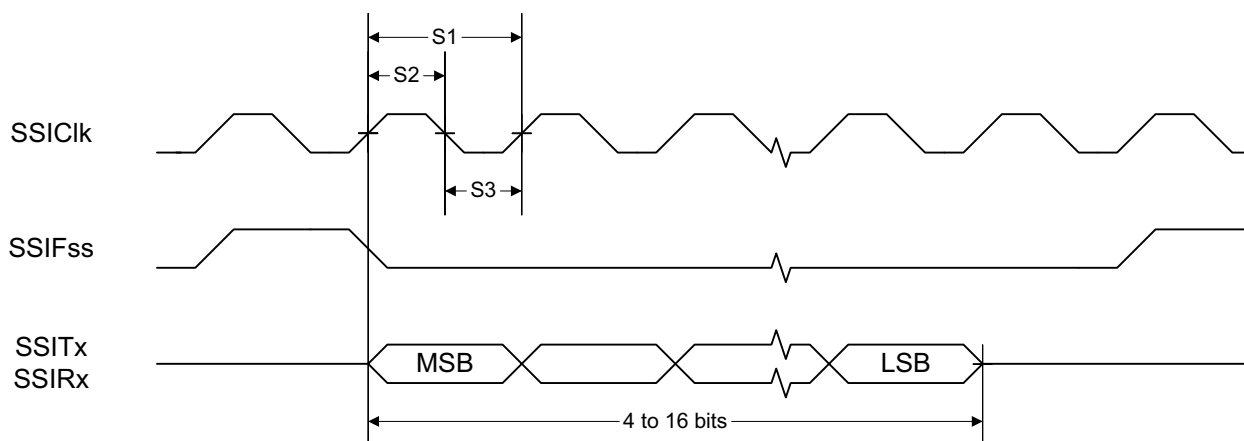
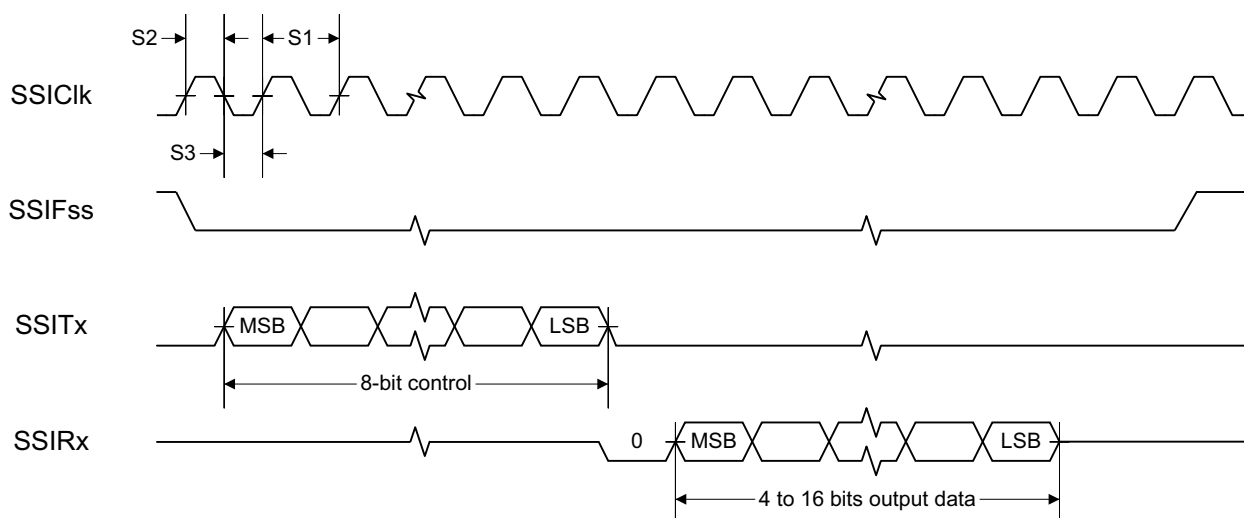
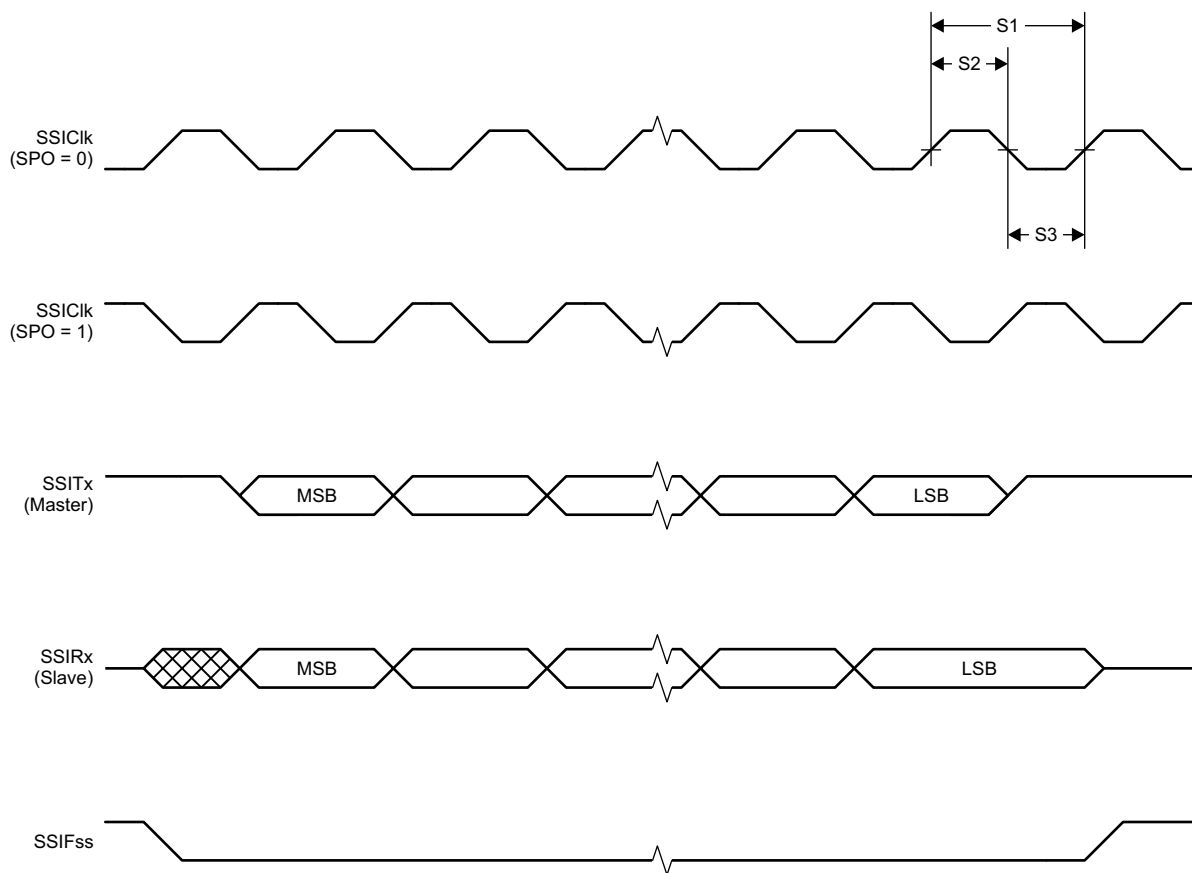

Figure 8-1. SSI Timing for TI Frame Format (FRF = 01), Single Transfer Timing Measurement
Figure 8-2. SSI Timing for MICROWIRE Frame Format (FRF = 10), Single Transfer
Figure 8-3. SSI Timing for SPI Frame Format (FRF = 00), With SPH = 1
- (1) Refer to SSI timing diagrams Figure 8-1, Figure 8-2, and Figure 8-3
(2) When using the TI-provided Power driver, the SSI system clock is always 48 MHz.